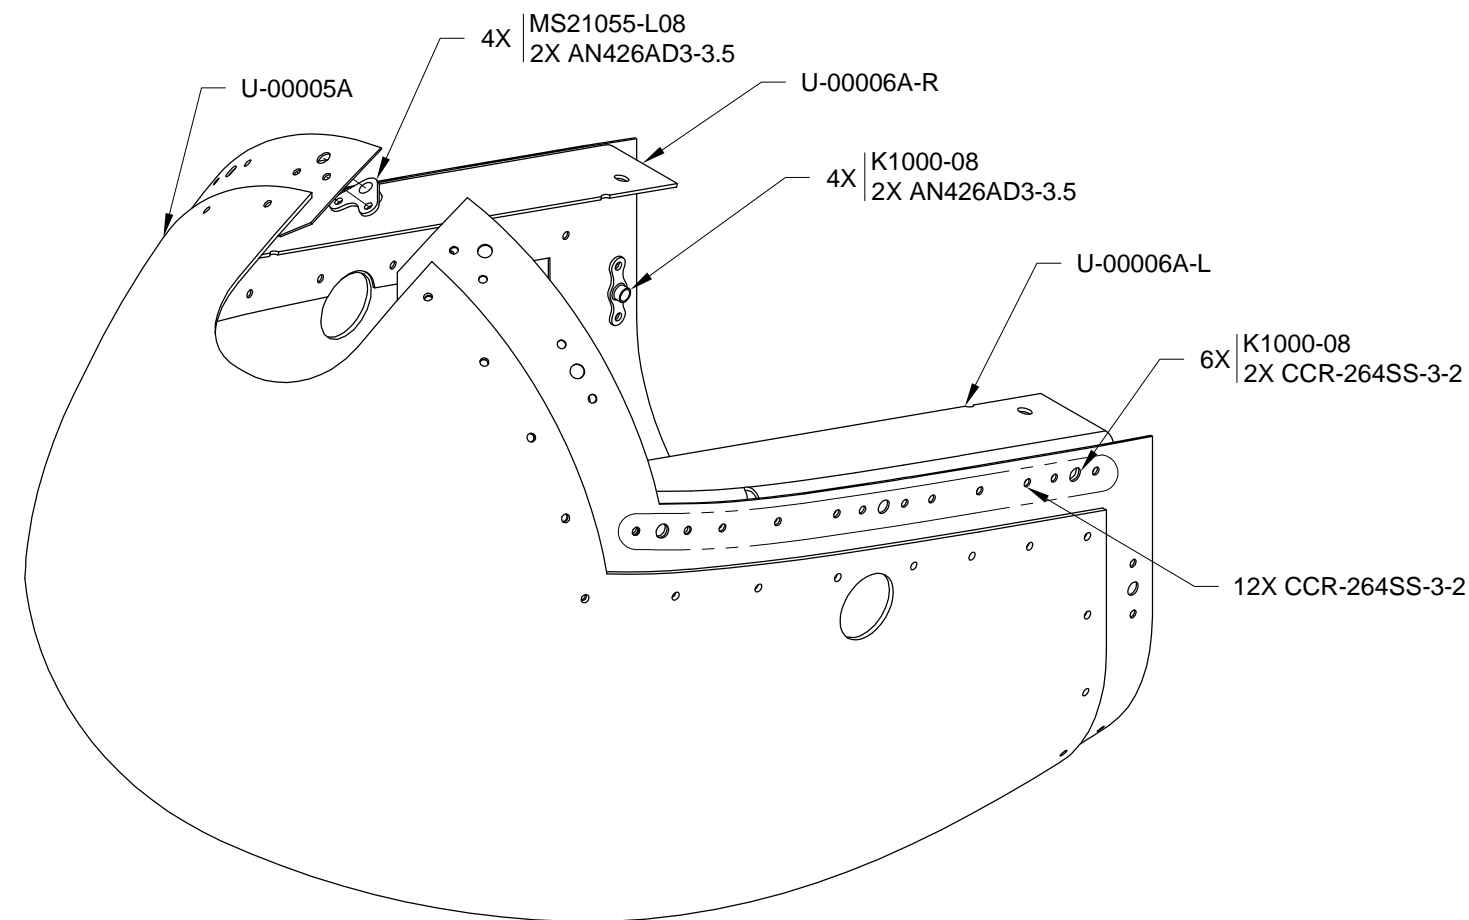

FIGURE 2: RIVETING WHEEL FAIRING BRACKETS AND NUTPLATES TO THE WHEEL FAIRING FRONT
Step 7: Cleco then rivet the U-00006A Wheel Fairing Brackets to the U-00006B Splice Strips. Install the nutplates called out in Figure 2.
Step 2: Attach the U-00005B Wheel Fairing Aft to the U-00006B Splice Strips. Clamp the U-00006C Drill Template to the U-00006A-L and U-00006A-R Wheel Fairing Brackets. Use a fine point felt pen to mark the drill template along the intersection between the drill template and the wheel fairing brackets. See Figure 2.